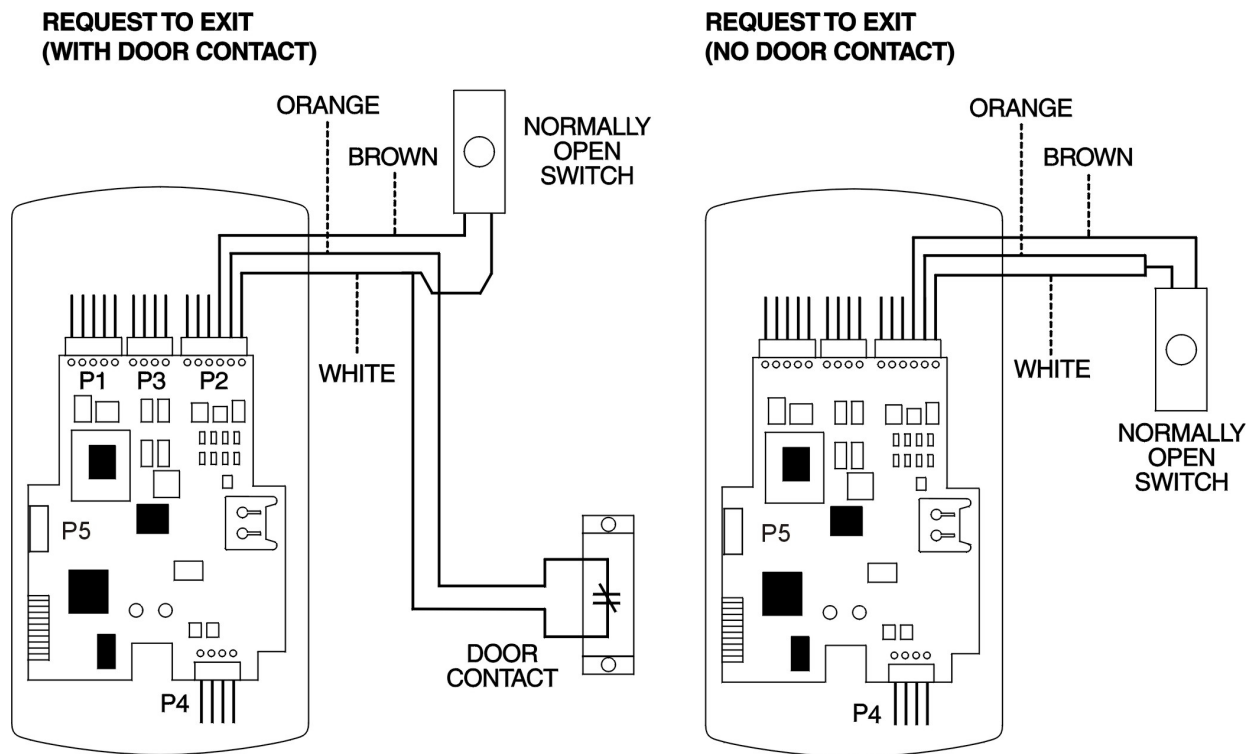

Figure 13: Wiring the REX Switch
Other REX devices can be used to include a remote button placed at a receptionist's desk, a press-to-exit switch on the inside of a door, or a passive infrared detector, allowing free and convenient egress. The REX feature requires no programming; simply wire the unit as illustrated in Figure 13. To incorporate this feature, follow the steps below:
4. **If you do not wish to install the door contacts per figure 13**, twist the white wire and the orange wires together; this is mandatory. If this is not done, the REX input will not function.